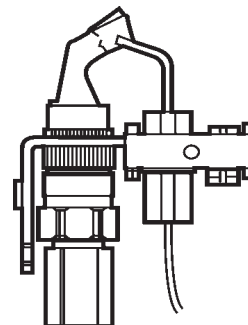
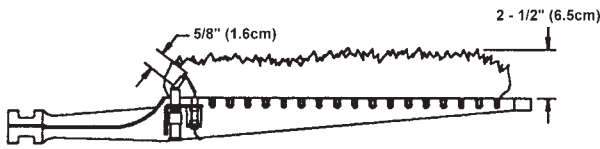

FIGURE 15
FIGURE 16
- The pilot flame should envelop sensing device with 5/8" (1.6cm) flame, fig. 16. Remove pilot adjustment cover screw, fig. 15. Turn inner adjustment screw clockwise to decrease, or counterclockwise to increase pilot flame. Be sure to replace cover screw on gas valve after adjustment to prevent possible gas leakage.
At least once a year, check the pilot burner, fig. 15, and the main burner, fig. 16, for proper operation. Refer to the following pilot and main burner sections.
The main burner, fig. 16, should display the following characteristics: